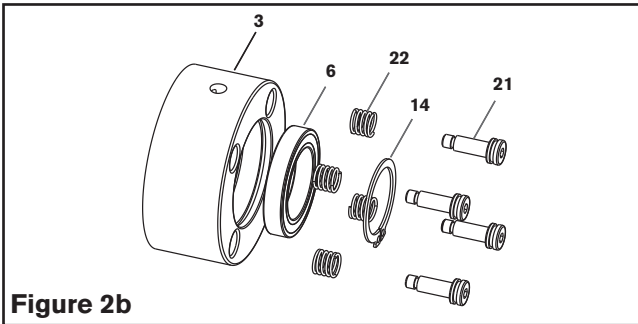

Figure 2b
7. Remove the Retaining Ring (Item 14) from the Air Chamber (Item 3). (Figure 2b)
HT Models only: Remove the shoulder bolts (Item 21) and springs (Item 22) from the Air Chamber (Item 3). (Figure 2b)